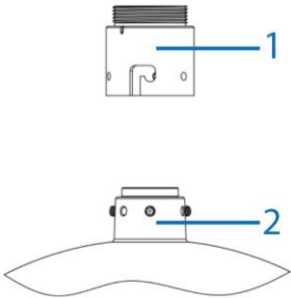

Figure 7
2. Securely attach the adaptor ring (1) (Figure 7) to the mount (e.g. wall / pendant mount).
3. Route the camera cables through the adaptor ring, pendant cap (2) (Figure 7).